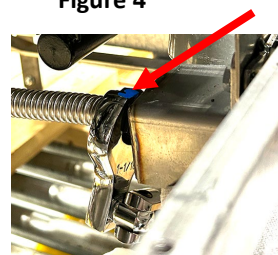

Figure 6
7. Disconnect the flexible hose from the rear of the female suction assembly (see Figure 6).